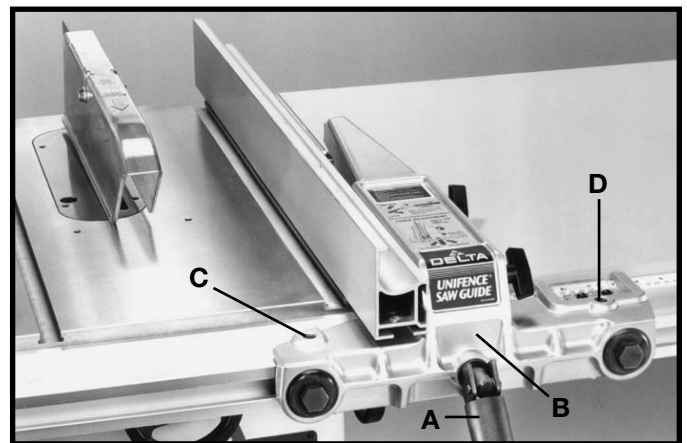
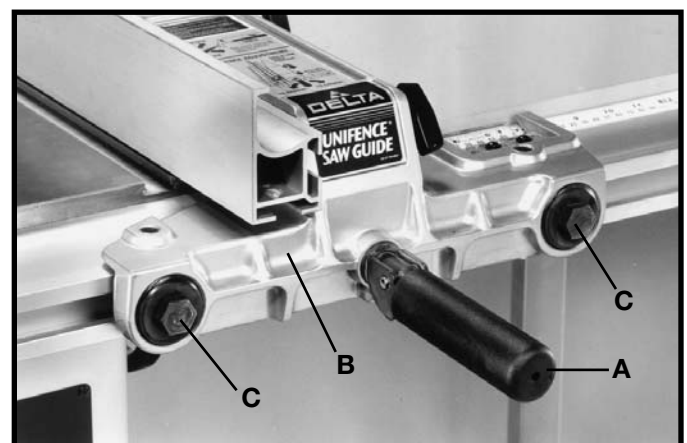

Fig. 103
Fig. 104
When the fence locking handle (A) is pushed to the down position, as shown in Fig. 103, the fence body (B) should be completely clamped to the guide rail. If the fence body (B) is not completely clamped to the guide rail when the handle (A) is in the position shown in Fig. 103, lift up on locking handle (A) Fig. 104, and slightly tighten two adjustment plugs (C) using the arbor wrench or 7/8 wrench. Adjustment plugs (C) should be tightened an equal amount. Check to see if the fence body (B) is completely fastened to the rail by pushing down on locking lever (A). Adjust further if necessary. **IMPORTANT: AFTER ADJUSTING THE CLAMPING ACTION OF THE FENCE LOCKING HANDLE, CHECK TO SEE IF THE FENCE IS PARALLEL TO THE MITER GAGE SLOT AND ADJUST IF NECESSARY.**